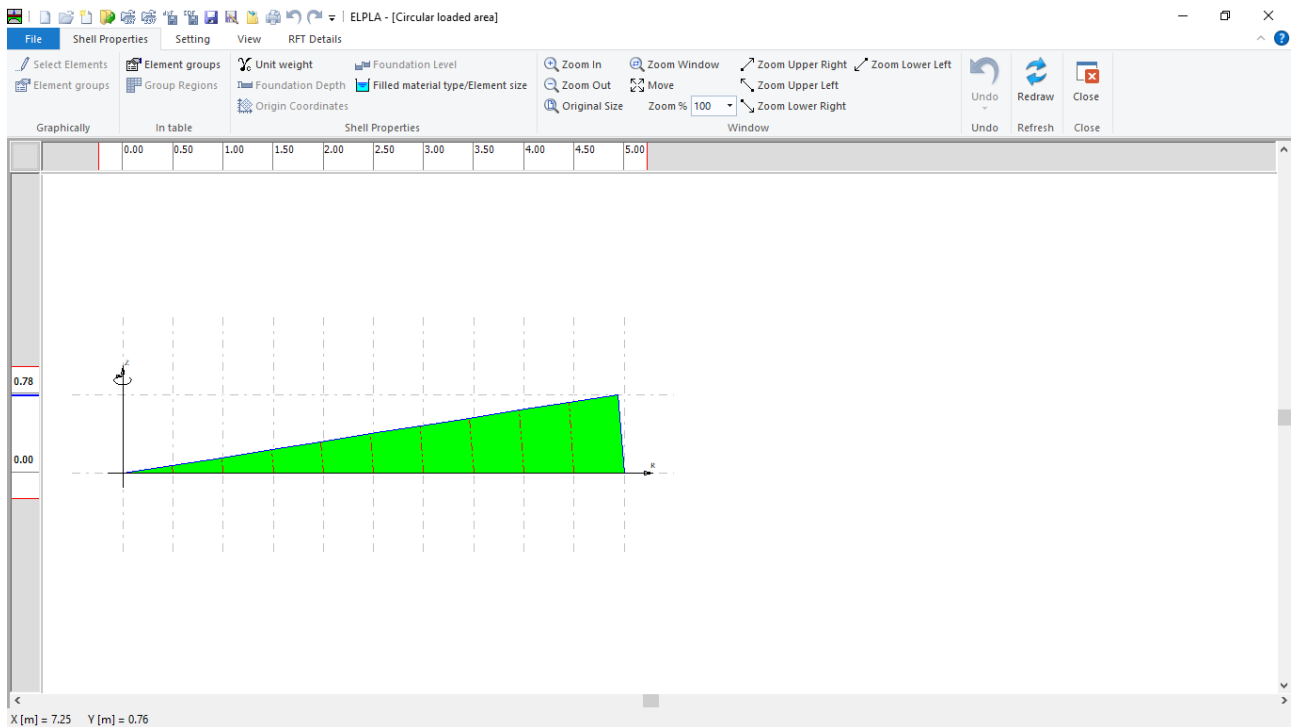
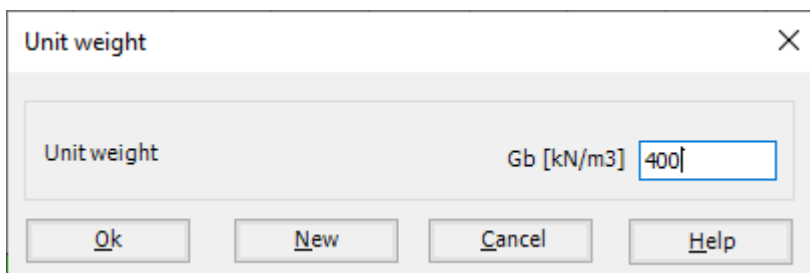

Figure 1.14 "Shell Properties" Window
Figure 1.16 "Unit weight" dialog box
To define the shell properties, choose "Shell Properties" command from "Data" Tab. The following window in Figure 1.14 appears with default shell properties. The data of shell properties for the current example, which are required to be defined, are element groups, and the unit weight of the shell. Any other data corresponding to shell properties in the program menus are not required for this example.
To enter the unit weight of the shell, choose "Unit weight" command from "Shell Properties" menu in the window of Figure 1.14. The following dialog box in Figure 1.16 with a default unit weight of 25 [kN/m³] appears. Type 400 in the "Unit weight" edit box, to define the uniform load on the circular area. Then click "OK" button.
- Choose "Save" command from "File" menu in Figure 1.14 to save the shell properties
- Choose "Close" command from "File" menu in Figure 1.14 to close the "Shell Properties" window and return to *ELPLA* main window